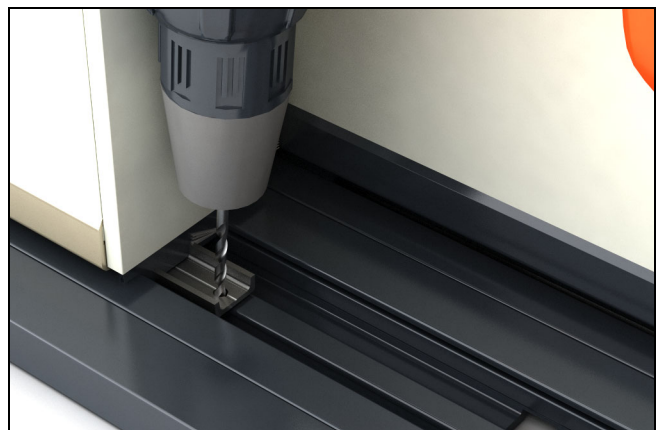

Figure 148
8. Pre-drill the sill using bracket as a guide and 1/8" (3) drill bit. **Do not puncture pan.** Fasten using #8 x 3/8" pan head screws. See figure 148.